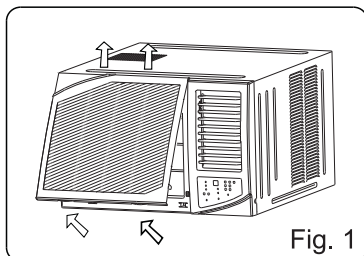

Fig. 1
1. Hold the slot under the front panel, then uplift it outwards, and remove the front panel (See Fig.1).